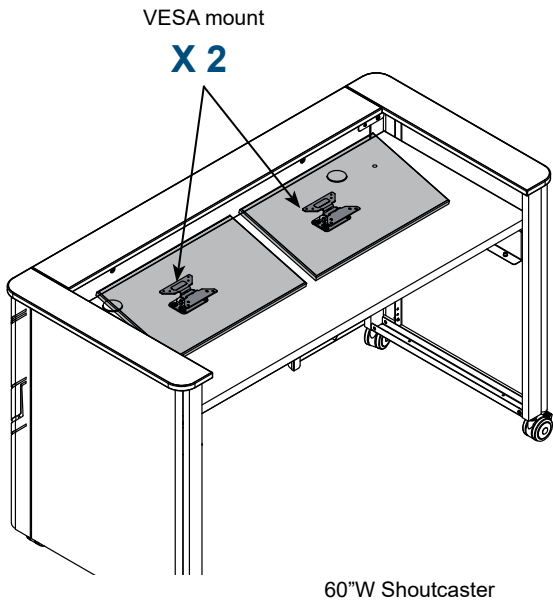

Figure 2.1
1. The worksurface may need to be lowered to provide clearance for the monitors. **Figure 2.1, 2.2.**
2. From under the worksurface, use a 3/16" drill bit to carefully drill through the laminate at the (4) corresponding pre-drilled pilot hole locations. Drill slowly or use masking tape to minimize chip-out.
4. Attach the VESA mount / monitor assembly to the rear worksurface with the (4) 10-24 x 1.5" PHM screws. A second person may be necessary to help with hole alignment.